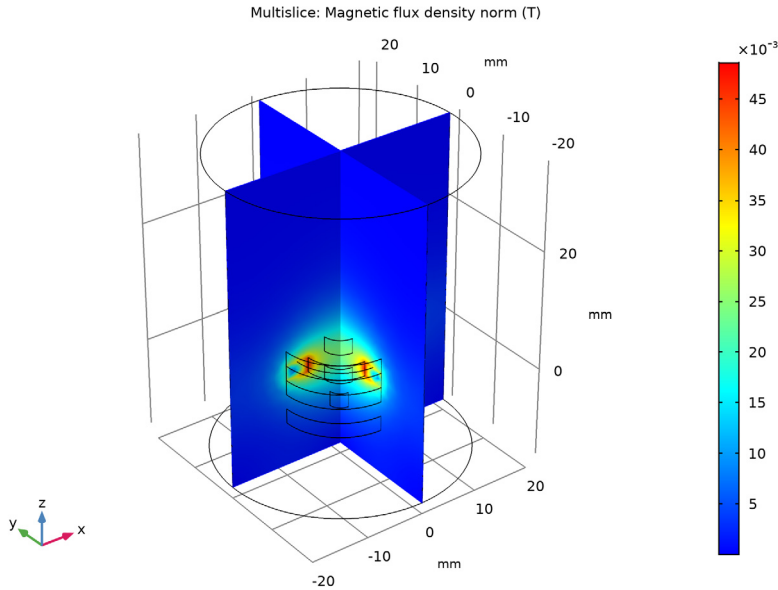

Figure 1: Plot of the magnetic flux density in the magnetic lens.
The magnetic flux density is plotted in Figure 1. The strength of the lens depends upon the coil configuration and current. The lenses within electron microscopes are generally very strong, in some cases focusing the electron beam within the lens itself.
- 5 In the **Magnetic Flux Density Norm (mf)** toolbar, click **Plot**. Compare the resulting image to Figure 1.